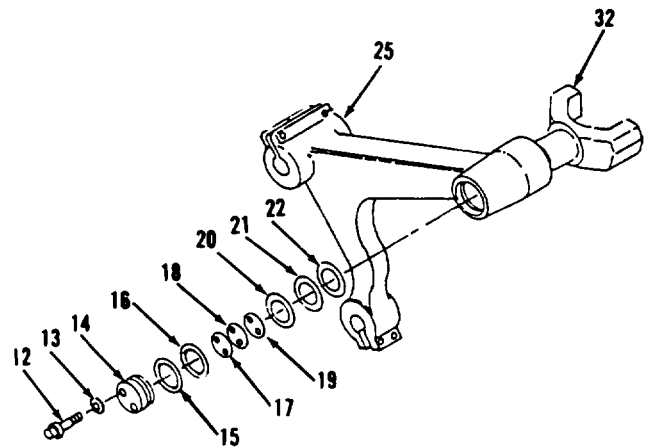
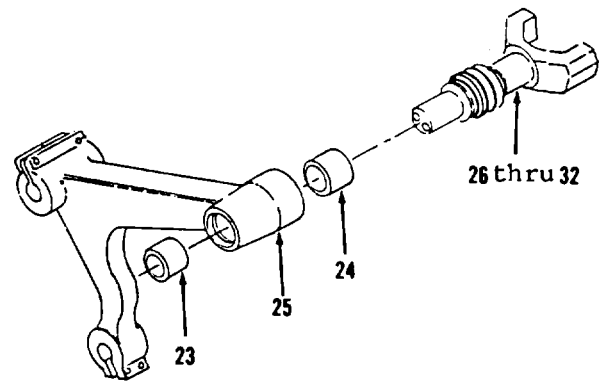

Figure 12-13.
Figure 12-14.
7. Remove two bolts (12), washers (13), retainer (14), seals (15 and 16), shim(s) (17, 18 and 19) and washers (20, 21 and 22, Figure 12-13). Discard seals (15 and 16).
8. Remove items 26 thru 32 as an assembly from blade lift arm (25, Figure 12-14).
2. Using puller assembly, pump group, screw, pulling adapter, nut and washer, install new bearings (24 and 23) in blade lift arm (25, Figure 12-14).
3. Install items 32 thru 26 as an assembly in blade lift arm (25).
4. Install washers (22, 21 and 20), shims (19, 18 and 17), new seals (16 and 15), retainer (14), two washers (13) and bolts (12). Use shims (19, 18 and 17) to get 0.01 inch maximum end clearance of yoke (32). Yoke (32) must rotate freely in blade lift arm (25, Figure 12-13).